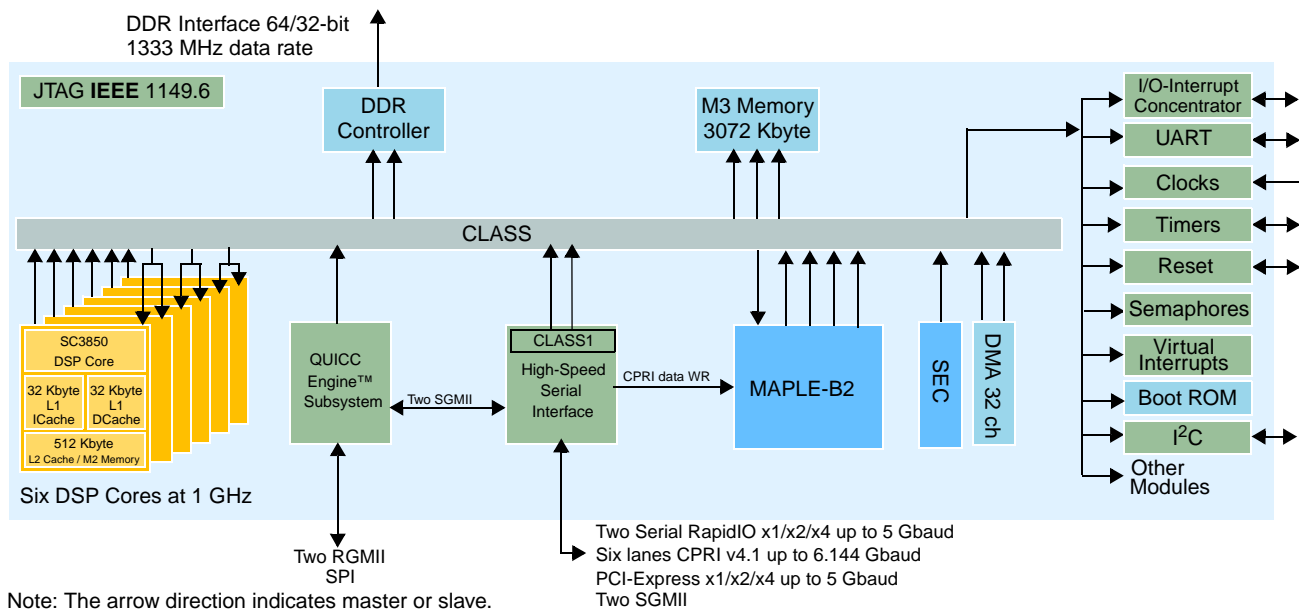

Figure 1. MSC8157E Block Diagram
- Figure 1. MSC8157E Block Diagram 2